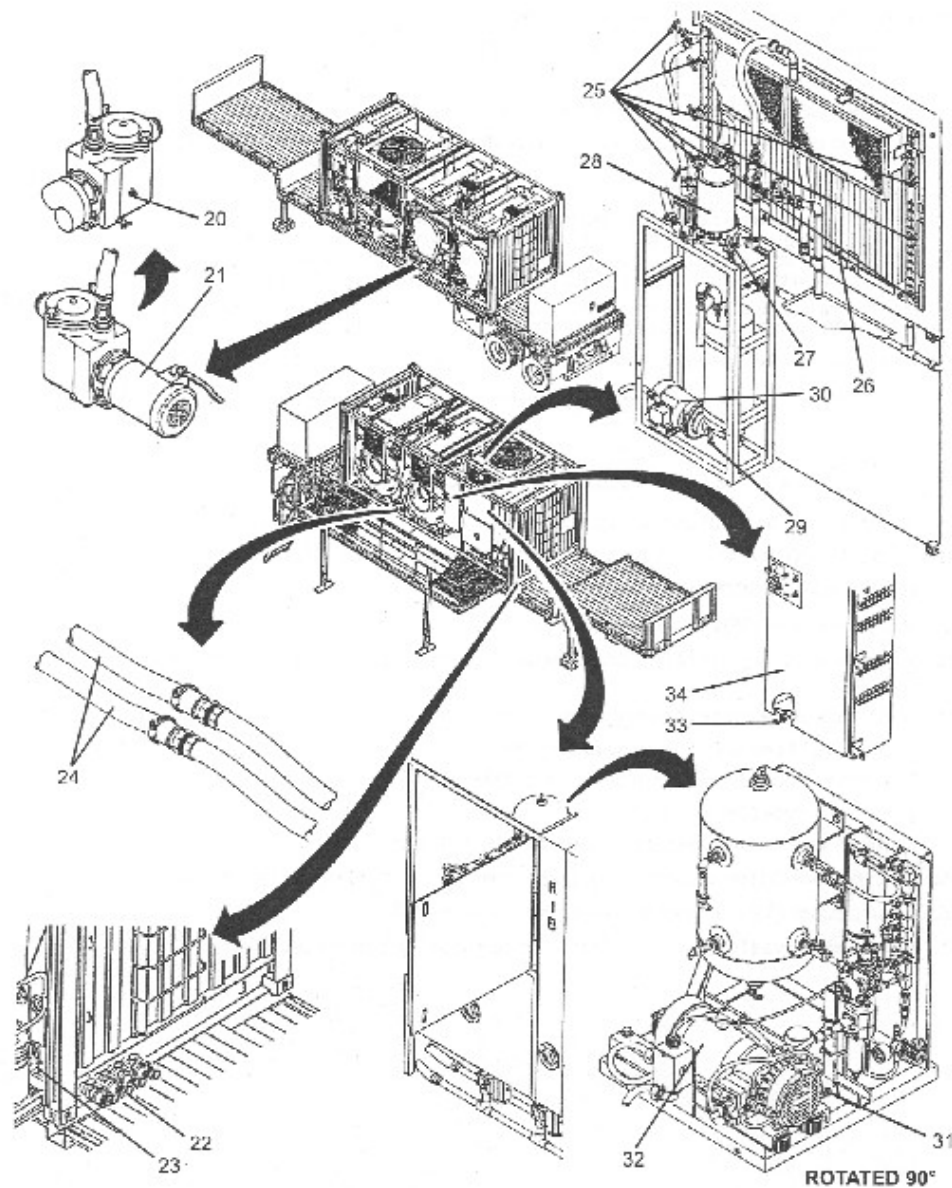

Figure 3-53
- (31) Position MAIN DISCONNECT switch to OFF.
- (32) Push in on EMERGENCY STOP switch.
- (33) Discontinue operation of MEP-805A generator on line(TM 9-6115-644-10 or remove external power as required.
- (34) Drain residual water from distillate plumbing as follows:
- (35) Open petcock on air compressor. Allow water to drain then close petcock.
- (36) Close petcock at bottom of main control enclosure.
- (37) Close drain valve on side of still where hose is connected. (See Figure 3-53)